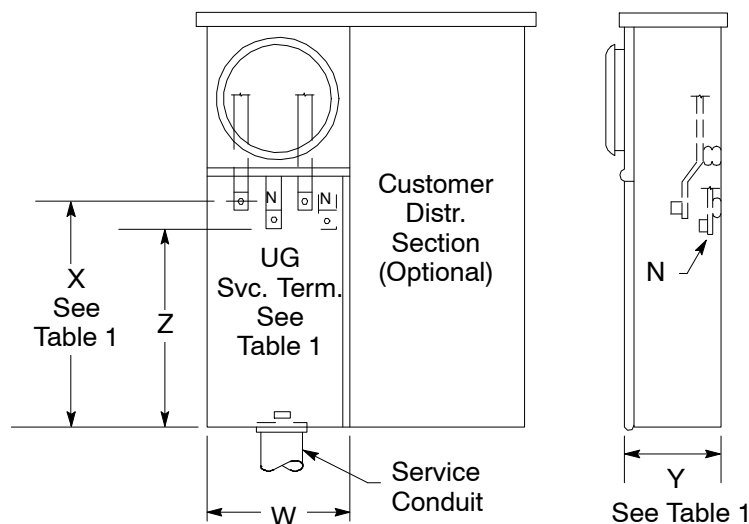
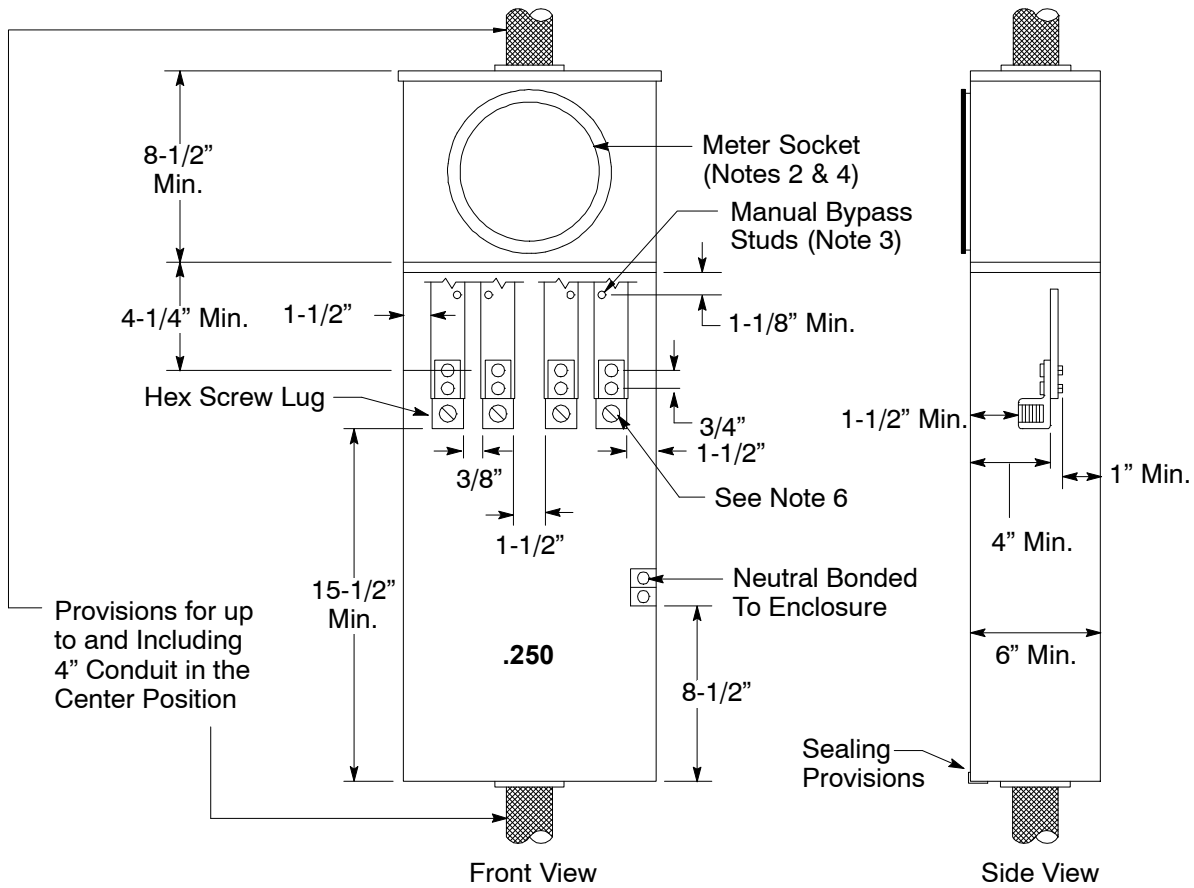

Figure 1
Figure 2
- (1) Combination service pull termination and meter socket, 0 through 200 amp (see Figure 1 on Page 3), or 201 through 320 amp (see Figure 2 on Page 4).
Table 1 Capacity and Dimensions (see Figure 1 above)